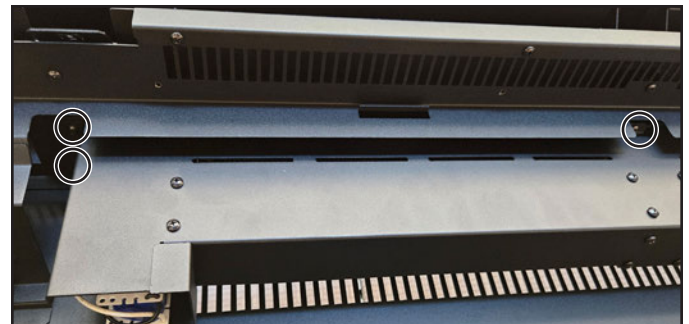

Figure 16 Heater Assembly Screw Locations
3. Remove the five (6) ST4x8 screws attaching the heater to the appliance. See Figure 16. The right side of the heater assembly has two screws similar to the left side.